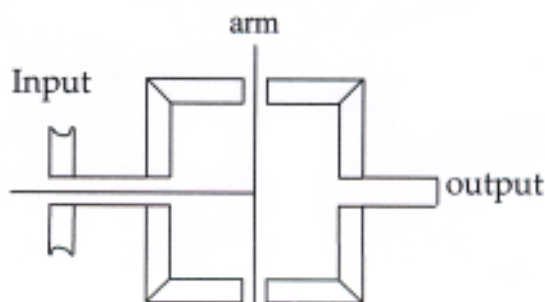

Figure 1. Planetary bevel block
4. a) A four bevel planetary mitre gear block shown in Fig. 1 has been used for a gear hobbing machine, such that output rpm is 10. Determine the input rpm if the arm of the planetary wheel rotates at 25 rpm. 8